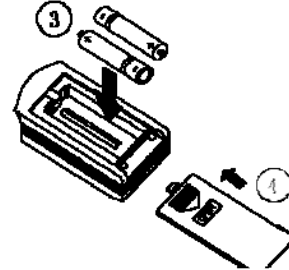

Fig. 4-3
2. Take out the old batteries and insert two AAA alkaline cells (as shown in Fig. 4-3).